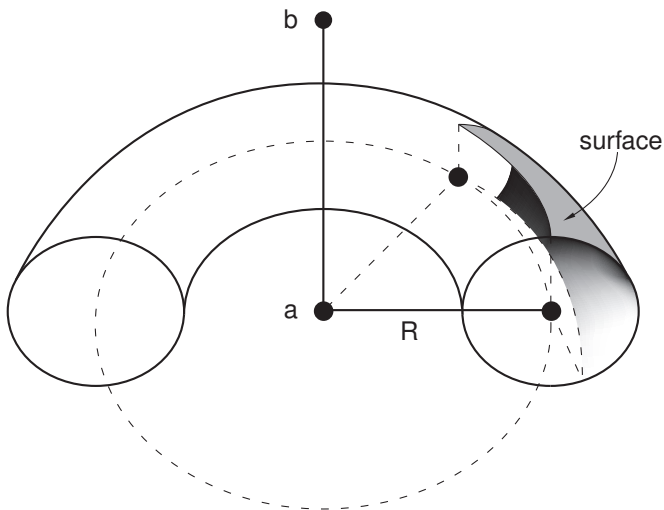

Figure 4: Three-dimensional toroidal smoothing.
Data line to define smoothing on regions of surfaces that correspond (or nearly correspond) to a toroidal surface (see Figure 4):
4. Global X-coordinate of point *a* on the approximate axis of revolution for the surface (see Figure 4).
7. Global X-coordinate of point *b* on the approximate axis of revolution for the surface (see Figure 4).
10. Distance *R* of the center of the circular arc from the axis of revolution (see Figure 4).